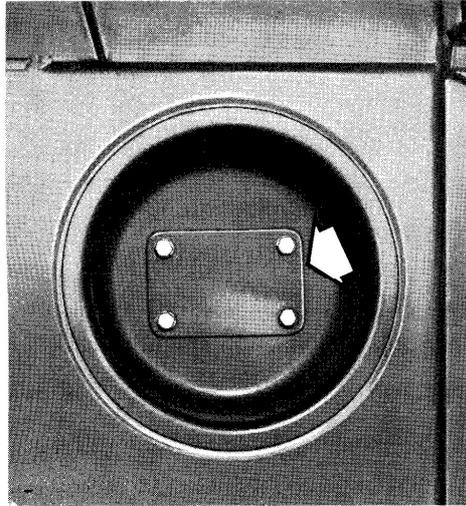

Fig. 9. Cover plate to be removed from right side of vehicle.
- a. Remove the cover plate in the recess on the right hand side of the vehicle, Fig. 9.